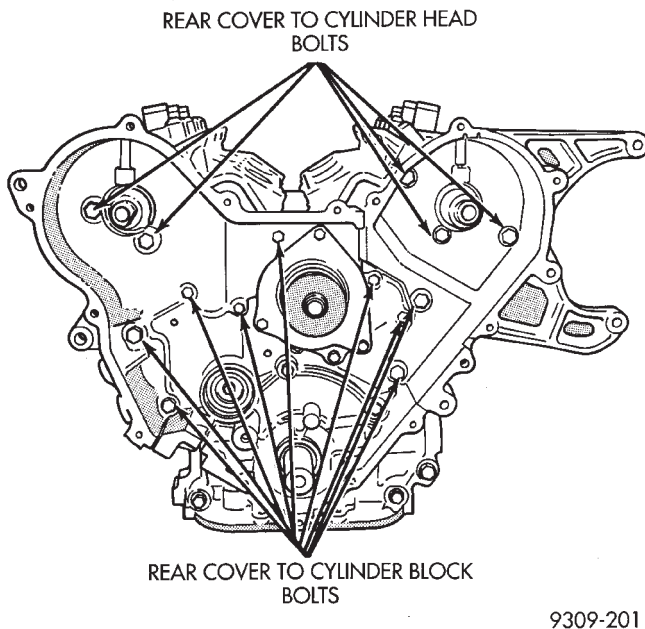

Fig. 15 Rear Timing Belt Cover Attaching Bolts
(1) Refer to Timing System Service in this group for disassembly and remove camshaft sprockets.
(2) Remove intake manifold assembly. Refer to Intake and Exhaust Manifolds, Group 11 for procedure.
(3) Remove timing belt cover to cylinder head fasteners (Fig. 15).
(4) If the right side timing belt cover is removed